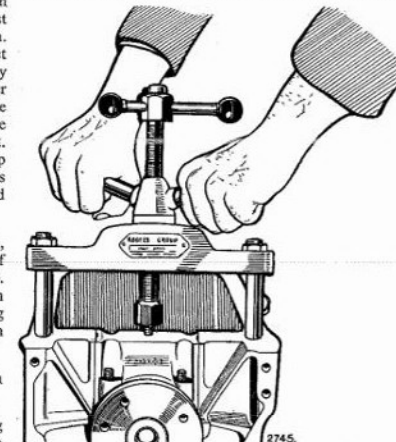

Fig. B.47. Removing the crankshaft rear main bearing cap, using the Churchill Tool R.G.11A and the adaptor set R.G.11A-1
- Remove the main bearing caps. Some difficulty may be experienced in removing the rear bearing cap on account of the felt seals, but the use of Churchill Tool R.G. 11A and the Adaptor Set R.G. 11A-1 (see Fig. B.47) is recommended to overcome this resist-